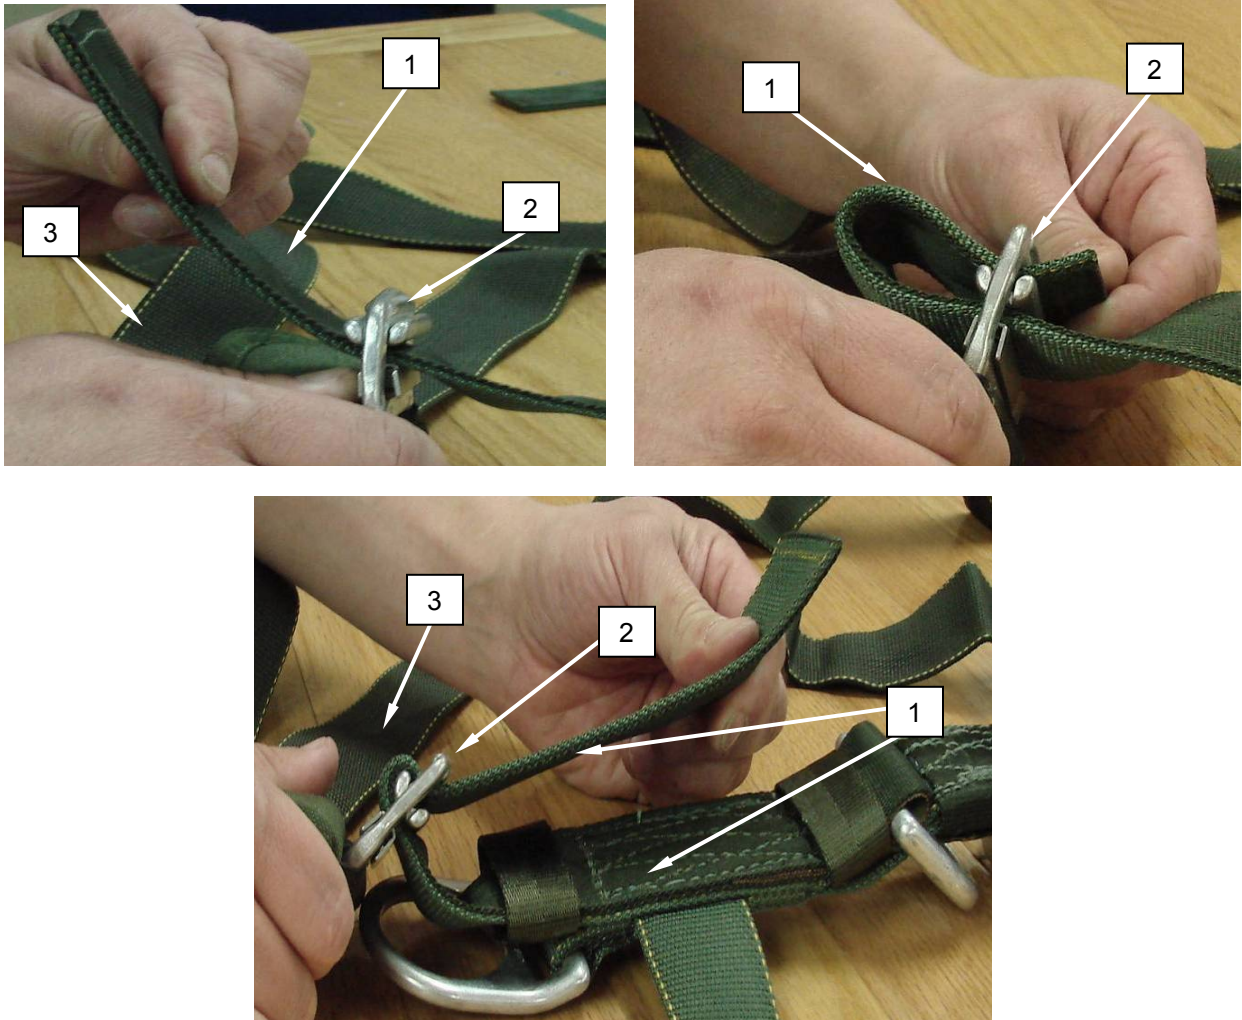
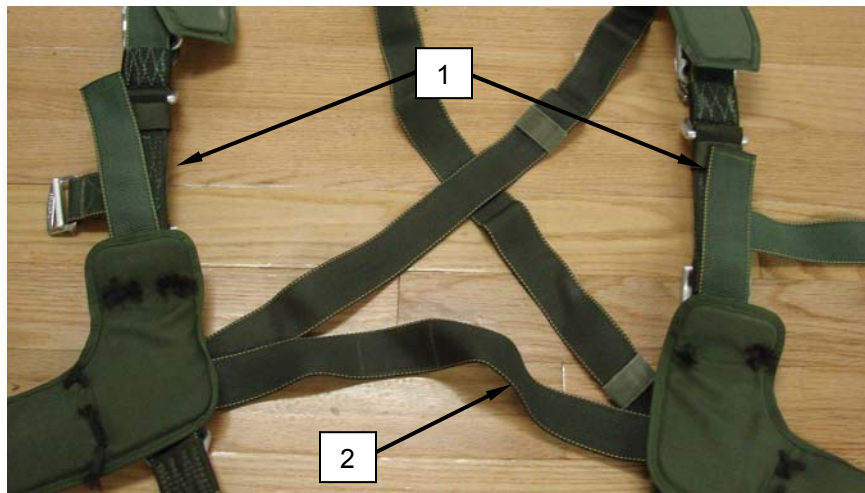

Figure 17. Routing of the Right and Left Upper Main Lift Web Straps.
Figure 18. Main Lift Web Assemblies Installed on Lower Saddle Assembly.
8. Install the right and left upper main lift web assemblies onto the lower saddle assembly (Figure 17).
9. Thread both the right and left upper main lift web straps (Figure 17, Item 1) through the main lift web adjusters (Figure 17, Item 2) located on the lower saddle assembly (Figure 17, Item 3), from bottom to top then back up through the main lift web adjuster. When task is complete, verify proper installation of the right and left upper main lift web assemblies (Figure 18, Item 1) onto the lower saddle assembly (Figure 18, Item 2).